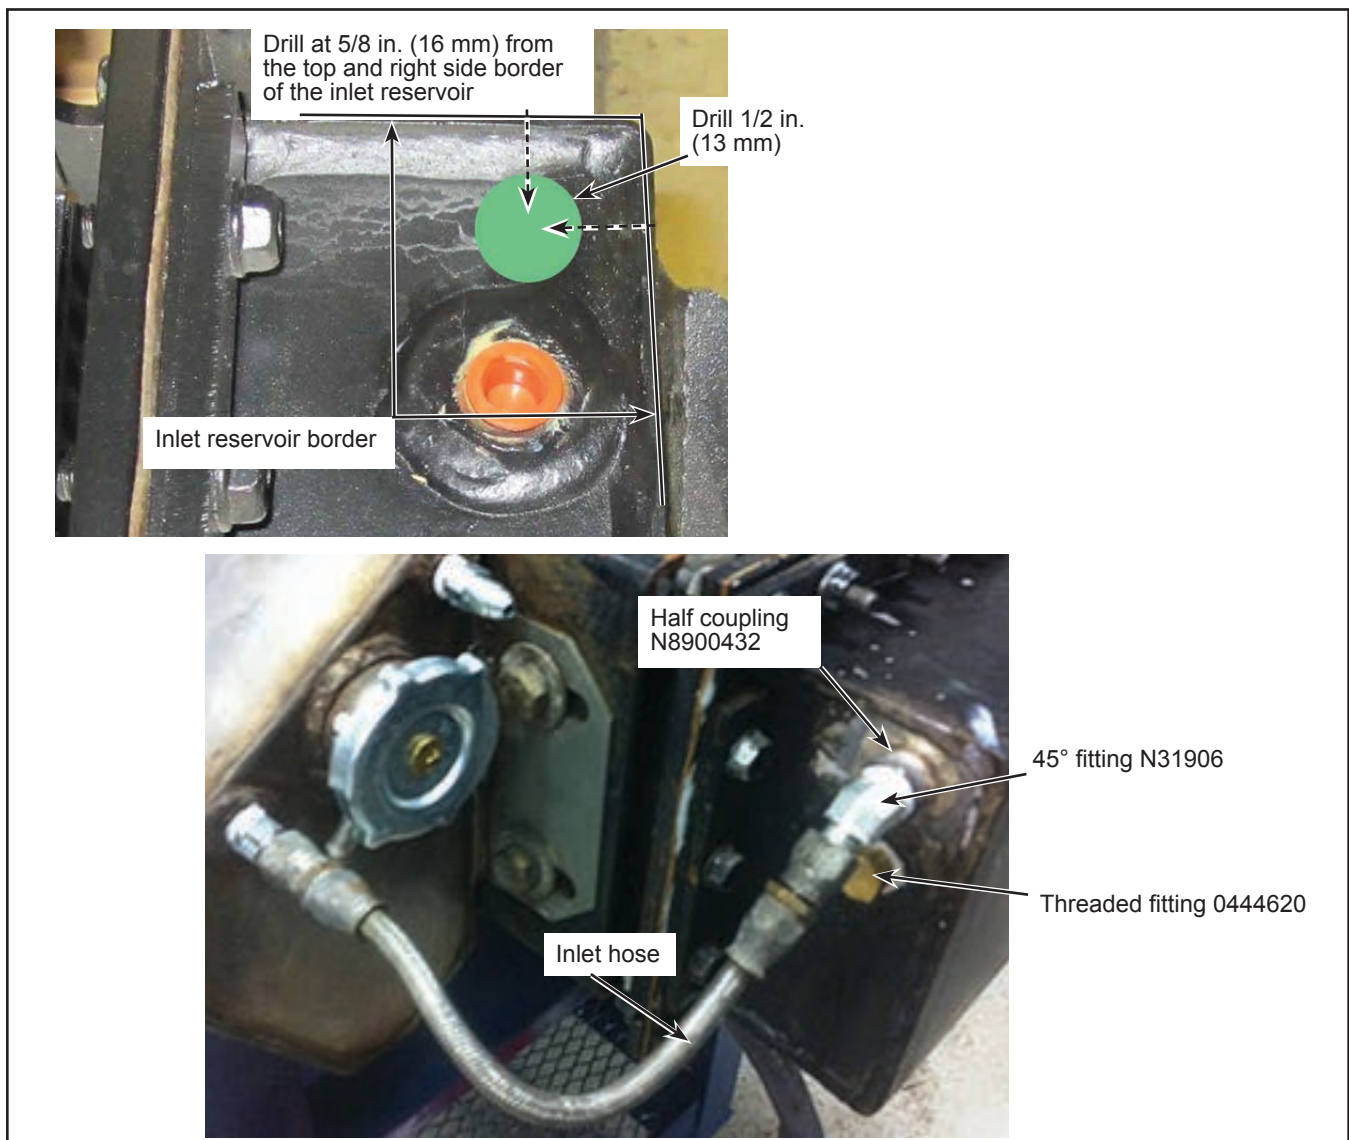

Figure 11 - Inlet Reservoir
- 1.39. Drill a 1/2 in. (13 mm) diameter hole on the inlet reservoir. See Figure 11 for the location of the hole to drill.
- 1.44. Install the 45° fitting N31906 on the half coupling N8900432. See Figure 11.
- 1.45. Connect the inlet hose to the 45° fitting N31906. See Figure 11.
- 1.46. Replace the old inlet fitting with the threaded fitting 0444620. See Figure 11.